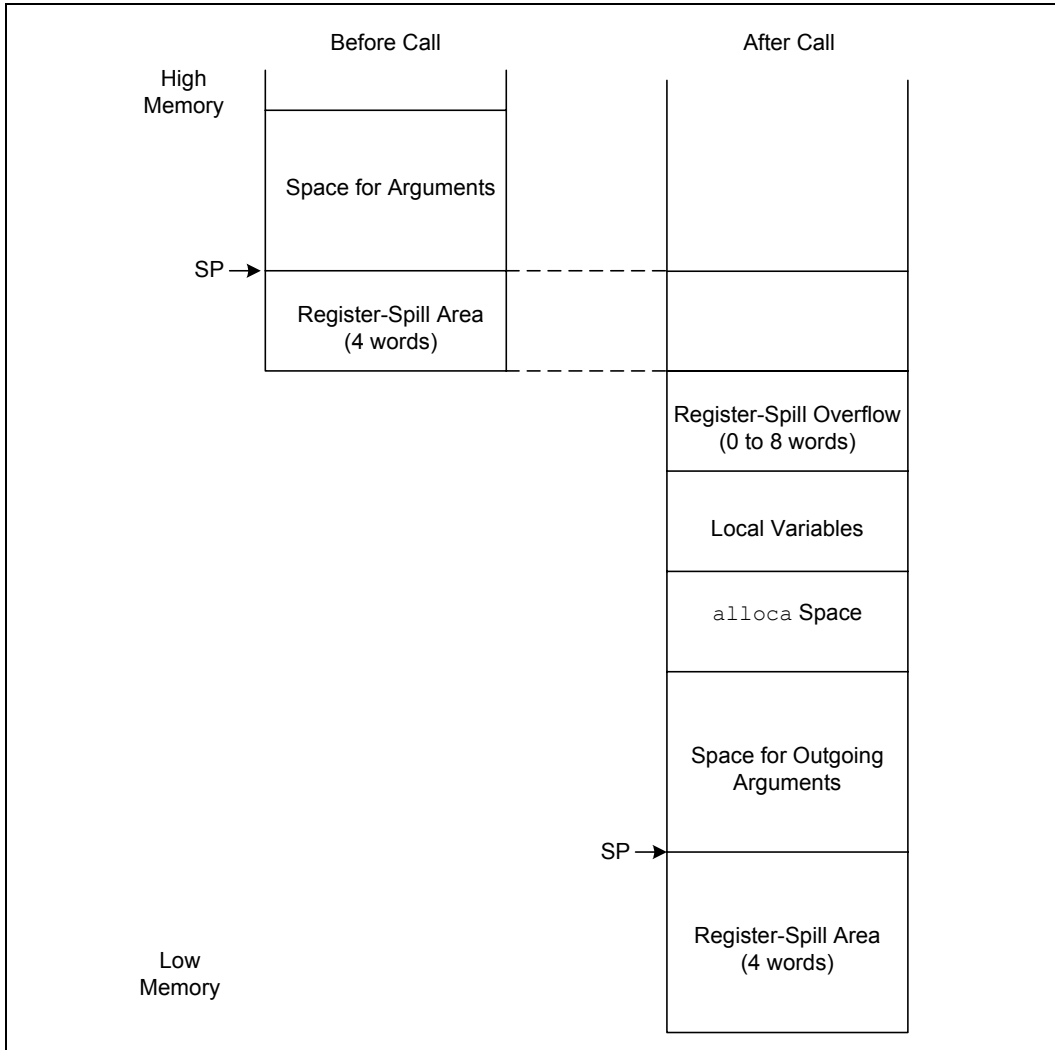

Figure 8–53. Stack Frame for the Windowed Register ABI
The stack frame layout for the windowed register ABI is shown in Figure 8–53. The stack grows down, from high to low addresses. The stack pointer (SP) must be aligned to 16-byte boundaries. A stack-frame pointer (FP) may (but is not required to) be allocated in register a7. For example, it may be needed when the routine contains a call to `alloca`. If a frame pointer is used, its value is equal to the original stack pointer (immediately after entry to the function), before any `alloca` space allocation.